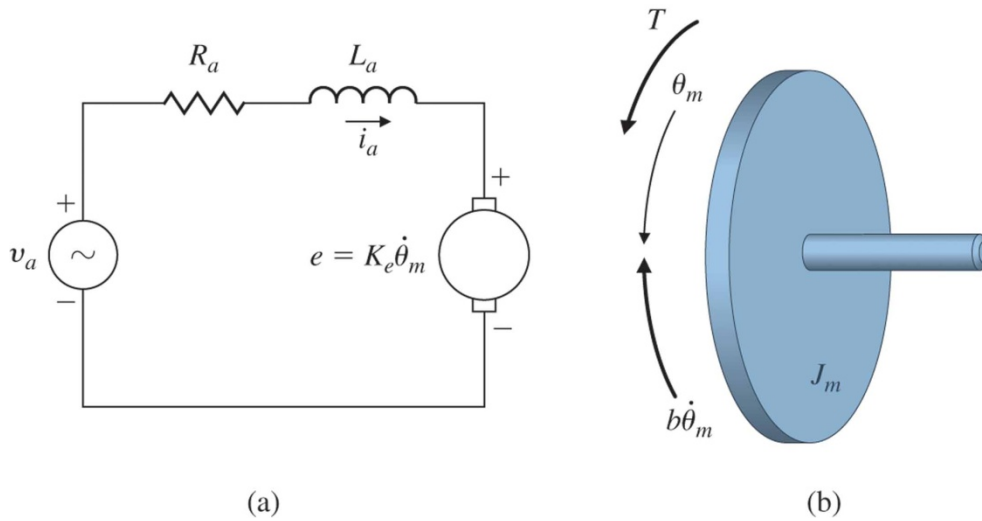

Fig. 2.22
10. The equations of motion for the DC motor shown in Fig. 2.22 were given in Eqs. (2.45-2.46) as